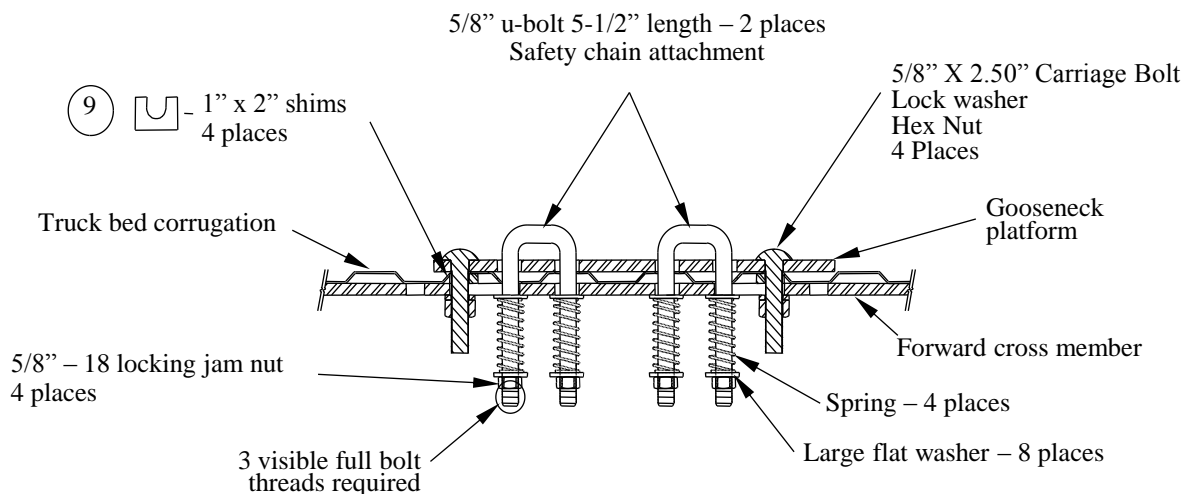

Figure 5
16. Before installing the 5/8" carriage bolts through the hitch, the U-block shims must be placed between the hitch and the bed and between the cross members and the bottom of the bed (see Figure 5). These shims are necessary to prevent the bed corrugations from collapsing when the bolts are tightened.
18. **For 6300 and 8339 Installations:** Install the (2) U-Bolts through the hitch and from under the vehicle install the large flat washer over the U-Bolt followed by a spring, another large flat washer and secure with a thin 5/8" jam nut. Repeat for the other legs of the U-Bolts. The 5/8" jam nuts are tightened until (3) threads are visible past the bottom of the jam nut.